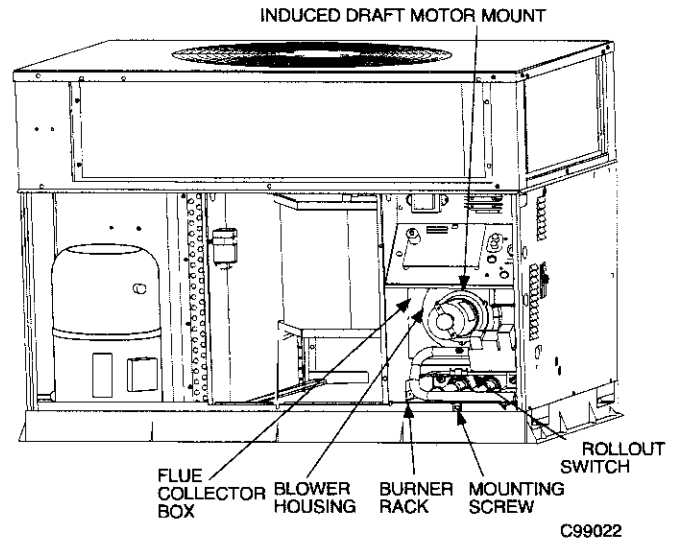

Fig. 27—Blower Housing and Flue Collector Box
7. Remove the mounting screw that attaches the burner rack to the unit base (See Fig. 27).
8. Slide the burner rack out of the unit (See Fig. 27 and 30).